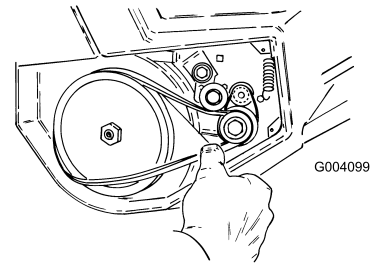

Figure 20
- Rotate the rotor with your left hand while sliding the belt onto the large pulley with your right hand (Figure 20).